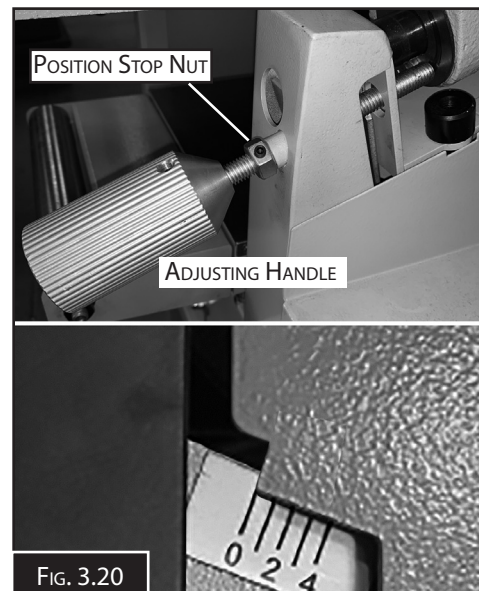

FIG. 3.20
2. Raise the infeed table by turning the rise and fall adjusting knob, (Fig.3.20) until the infeed table top stop is reached. The pointer should read 'zero' on the scale.
4. Remove the fence assembly. Unlock the infeed table locking handle and raise the table up. Undo the grub screw on the side of the position stop nut and rotate the nut on the thread as needed. (Anticlockwise moves table up, Clockwise moves table down) (Fig. 3.20)